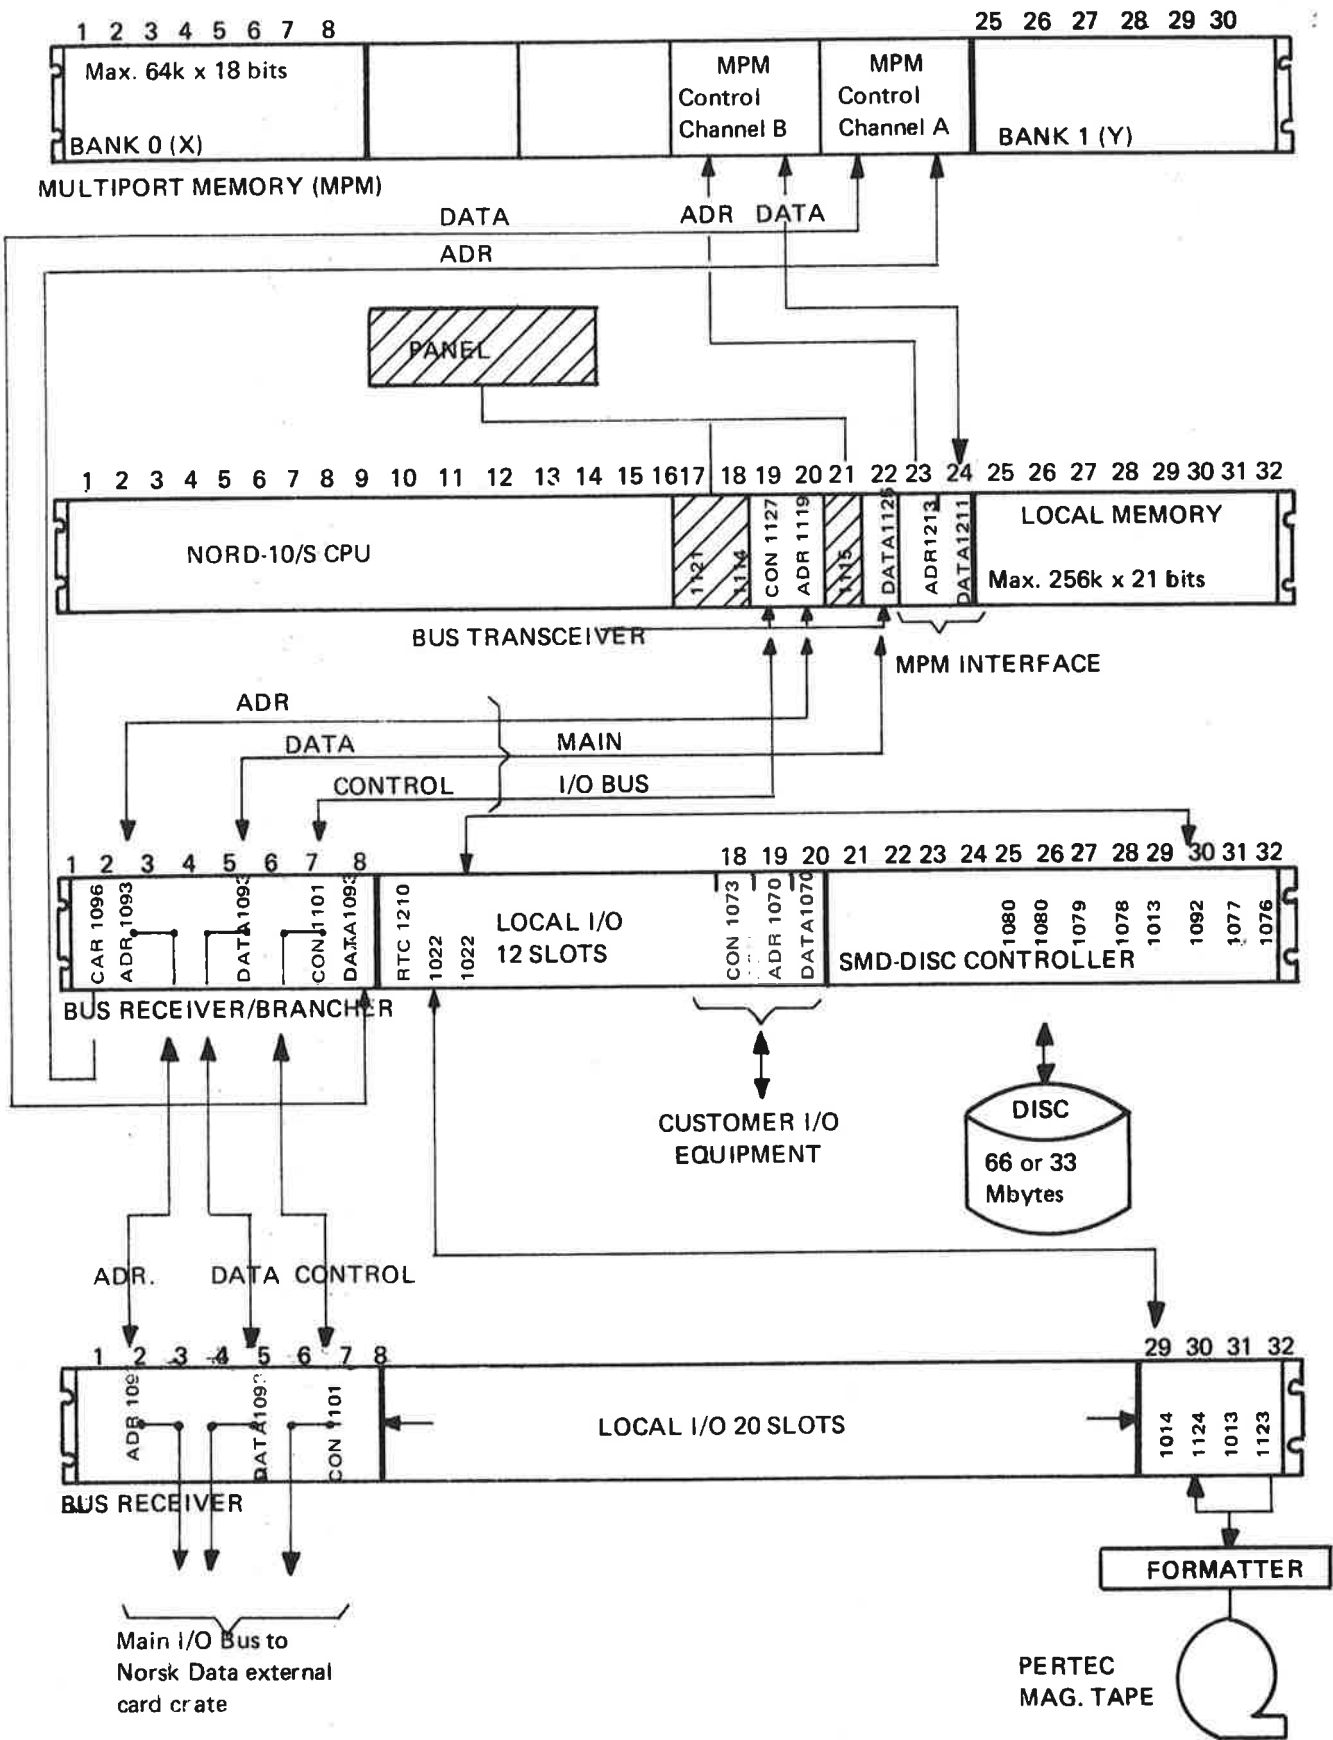

Figure 1.4: NORD-10/S EXAMPLE OF I/O CONFIGURATION
1.3.1 *I/O CARD-CRATE Expansion (Refer to Figure 1.4)*